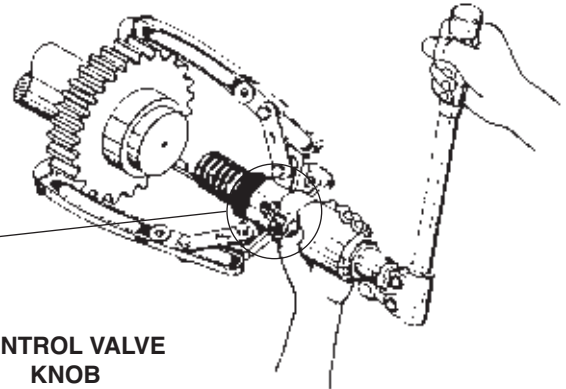

Figure 2
3. Turn the control valve knob completely in a clockwise direction to advance the piston. See Figure 2.